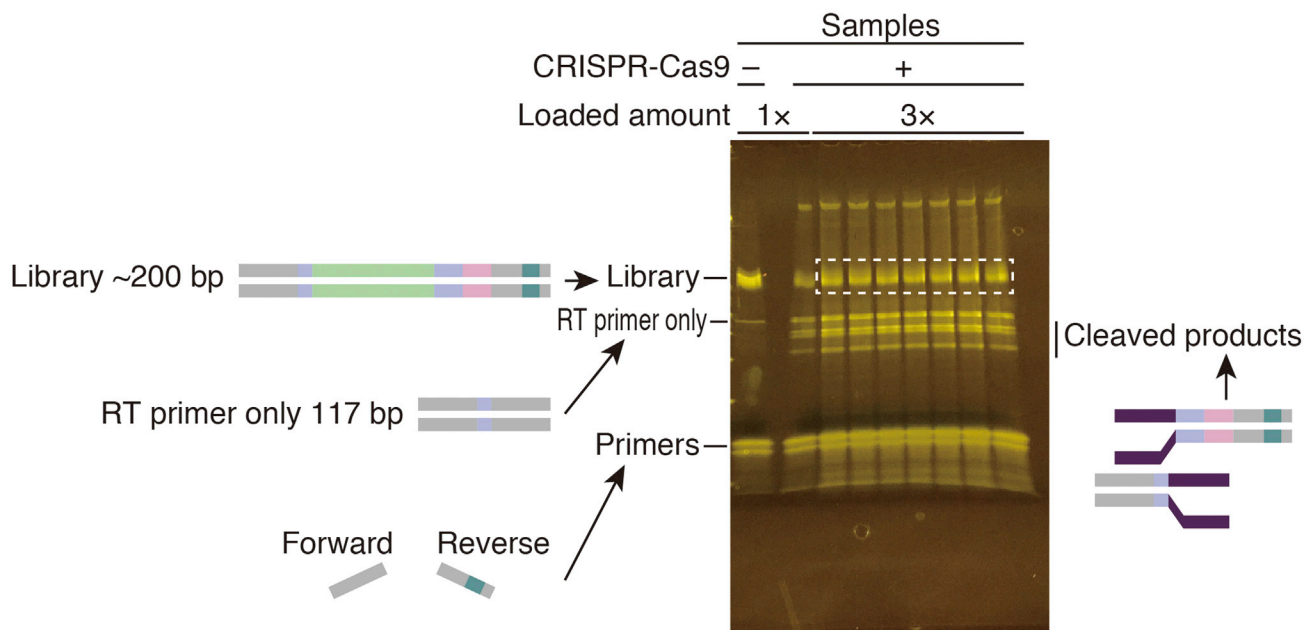

Figure 8. A representative Gel Image for CRISPR-Cas9-Mediated rRNA Depletion
91. Prepare the following reactions and load the entire volume on a non-denaturing gel (SuperSep DNA, 15%, FUJIFILM Wako Pure Chemical) and visualize DNAs as described in steps 79 and 82. Load on multiple wells if the volume in a well exceeds 20 μL. See Figure 8 for a representative result.